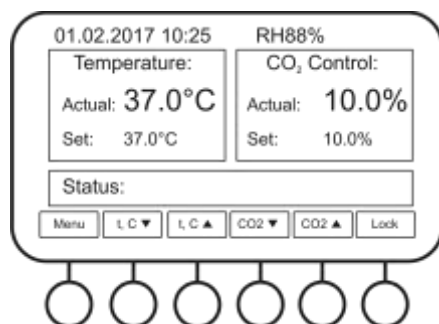

Figure 1. Working screen
- 5.2 After initialization, display (fig. 1) shows: